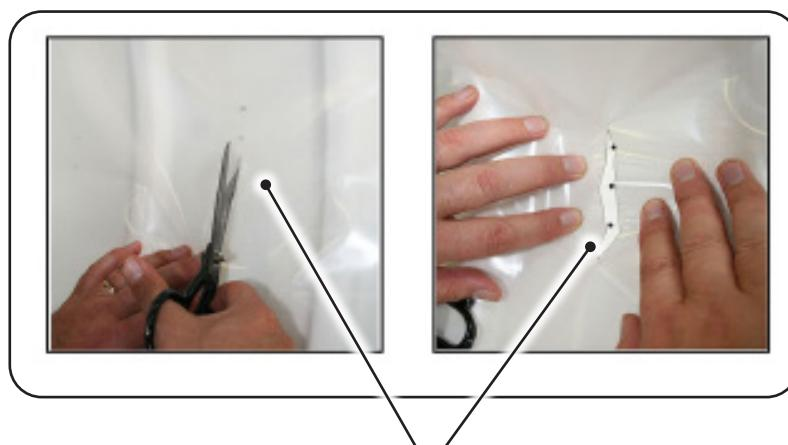

FIGURE 817B
- (i) Make a short slit in the polyethylene sheet where it aligns with the container drainage holes. Refer to FIGURE 817B.
(i) Make a short slit in the polyethylene sheet where it aligns with the container drainage holes. Refer to FIGURE 817B.
(i) Make a short slit in the polyethylene sheet where it aligns with the Flat-Pack container drainage holes. Refer to FIGURE 817B.
Refer to FIGURE 817B.